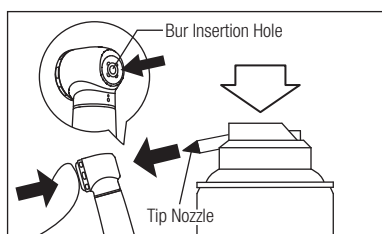

Fig. 13
- 2) Lubricate the chuck directly through the bur insertion hole (Fig. 13).